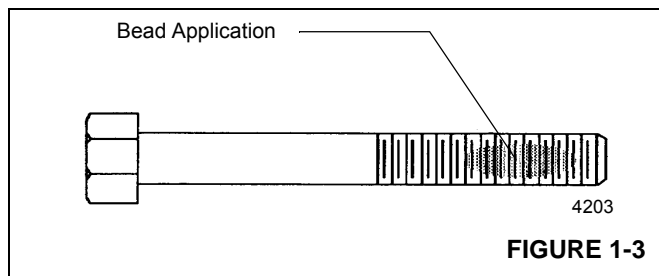

FIGURE 1-3
1. Apply a bead perpendicular to the thread, several threads wide, in the approximate area of threaded engagement (Figure 1-3).
3. After application and engagement of mated threads, fixturing will occur within five (5) minutes if primed prior to engagement. Fixturing may take up to 30 minutes on unprimed parts.